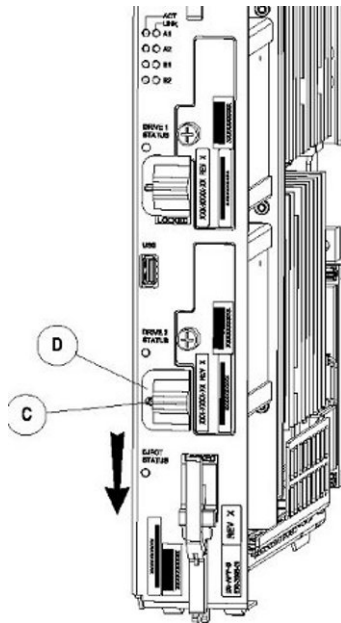
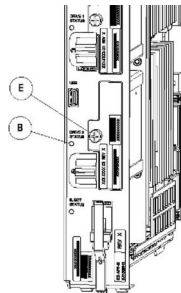
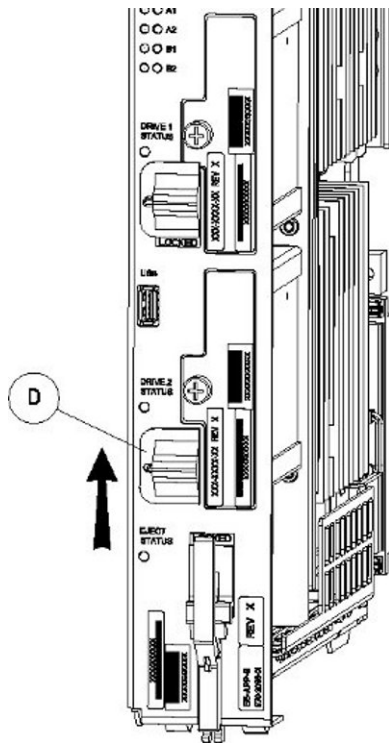

Figure 52: Drive Module UNLOCKED
Figure 53: Drive Module Status
Figure 56: Drive Module Locked
2. Move drive module locking switch (D) from the LOCKED to the unlocked position and wait for the LED (B) to indicate a steady red state. See Figure 52: Drive Module UNLOCKED and Figure 53: Drive Module Status, respectively.
4. Loosen the drive module screw (E) (see Figure 53: Drive Module Status).
2. Gently push the drive (A) in slowly until it is properly seated.
3. Tighten the mounting screw until the Drive Status LED is in a steady red state ((B), from Figure 53: Drive Module Status).
4. Move the drive module locking switch (D) from the unlocked to the LOCKED position.
When drive module locking switch (D) is transitioned from unlocked to locked, the LED will flash red to indicate the drive is locked and in process of coming online (see Figure 56: Drive Module Locked).